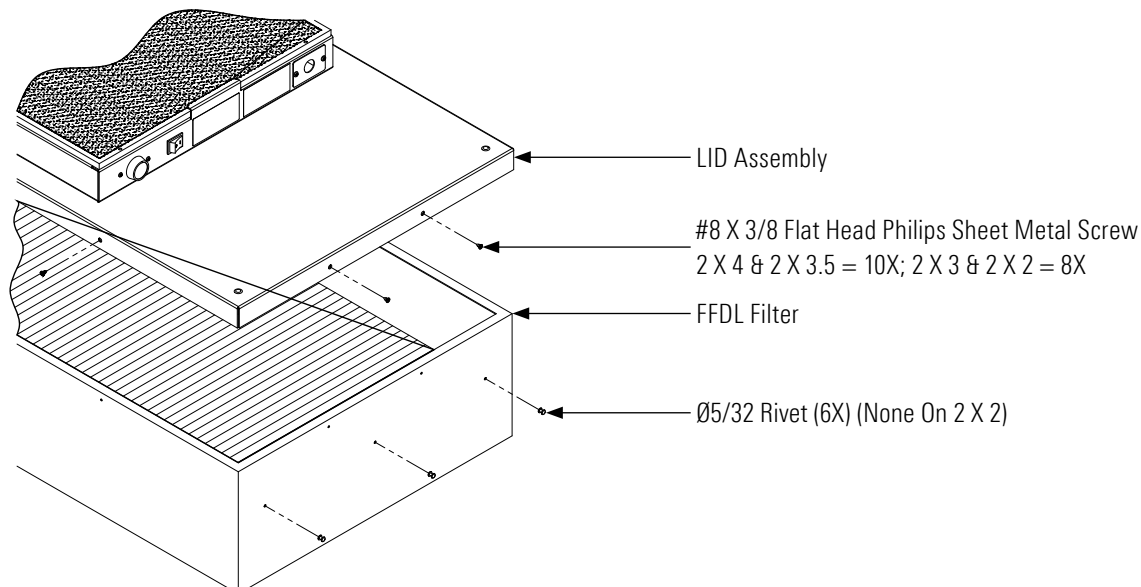

FIGURE 6: FFDL FILTER REPLACEMENT
Step 3. Lift the lid assembly off the HEPA/ULPA filter. (See Figure 6.) Discard the used filter as per requirements of the applicable regulations.